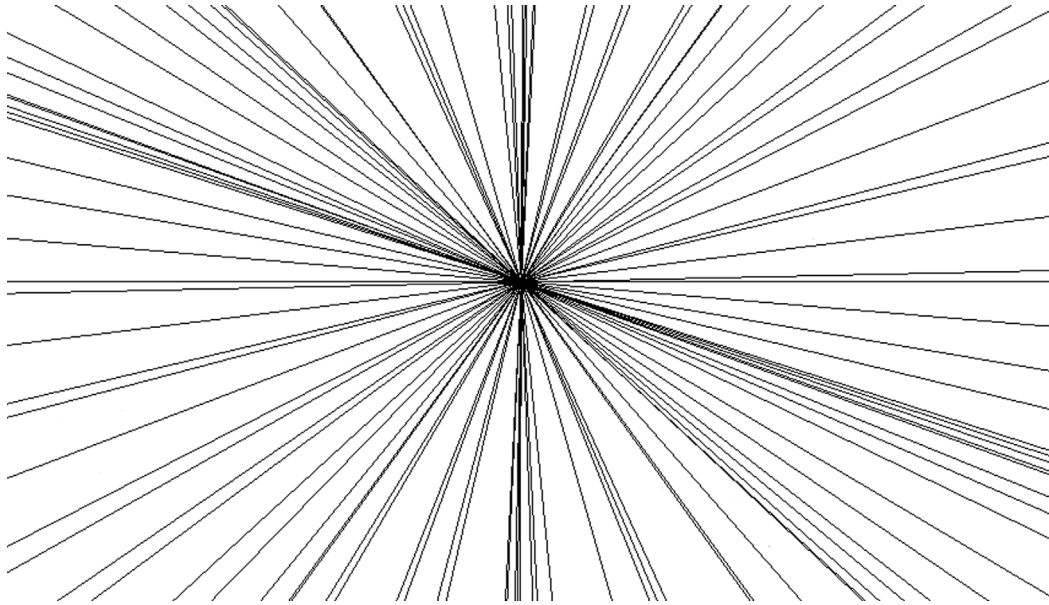
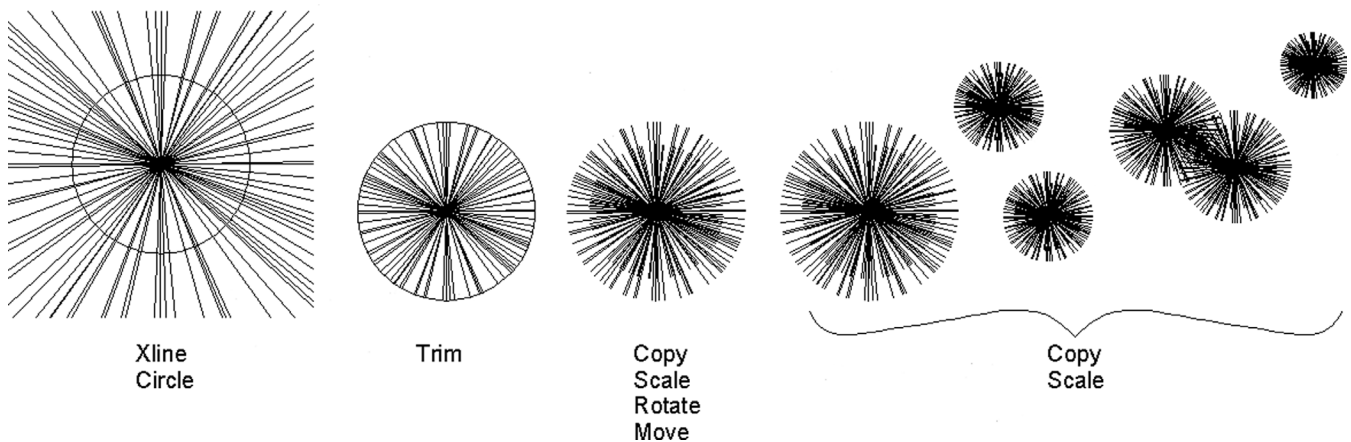

FIGURE 11.14 Random xlines.
FIGURE 11.15 An application of xline.
Step 3. Click randomly anywhere along the screen and multiple xlines appear. Fig. 11.14 shows one result of clicking in a circular manner.
Fig. 11.14 is perhaps not the most useful of creations, but landscape designers may find some use for the result of placing a circle at the intersection of those lines and trimming. Then, via some creative scaling, rotating, and copying, you get the reasonable representation of trees or shrubs in Fig. 11.15.